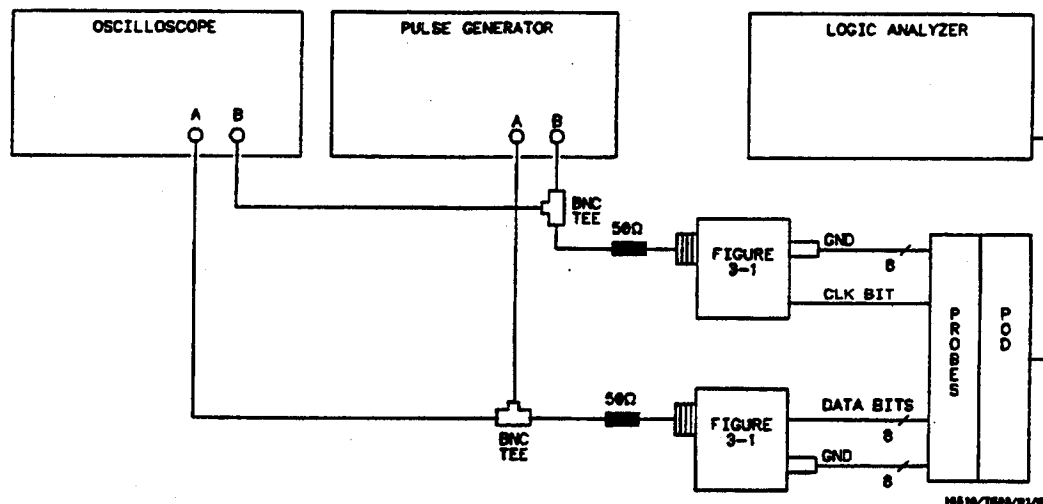

Figure 3-25. Equipment Setup For Test 6
1. Connect the HP 16510B and test equipment as shown in figure 3-25. Connect channels 0 through 3 and 8 through 11 of the pod under test to the test connector. On the slave clock transition, the four bits of the lower byte are transferred to the logic analyzer, and on the master clock transition, the four bits of the upper byte are transferred to the logic analyzer.